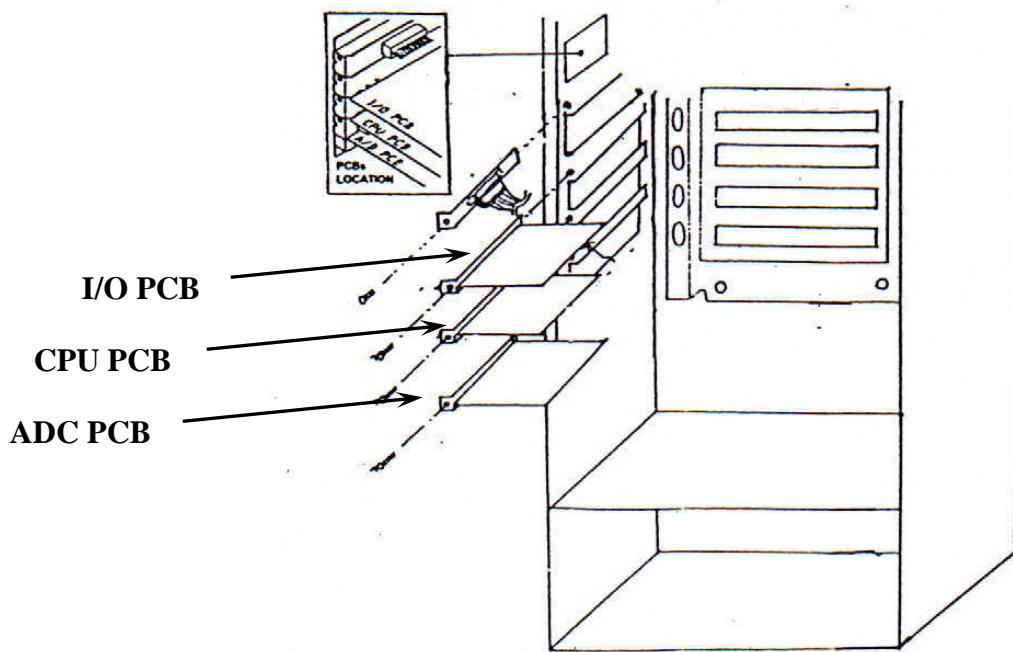

Figure 3-5. I/O PCB, CPU PCB and ADC PCB Replacement.
2. The locations of the I/O PCB, CPU PCB and ADC PCB are shown in Figure 3-5.
4. Remove the I/O PCB, CPU PCB and ADC PCB (Figure 3-5).
5. Install the I/O PCB, CPU PCB and ADC PCB (Figure 3-5).